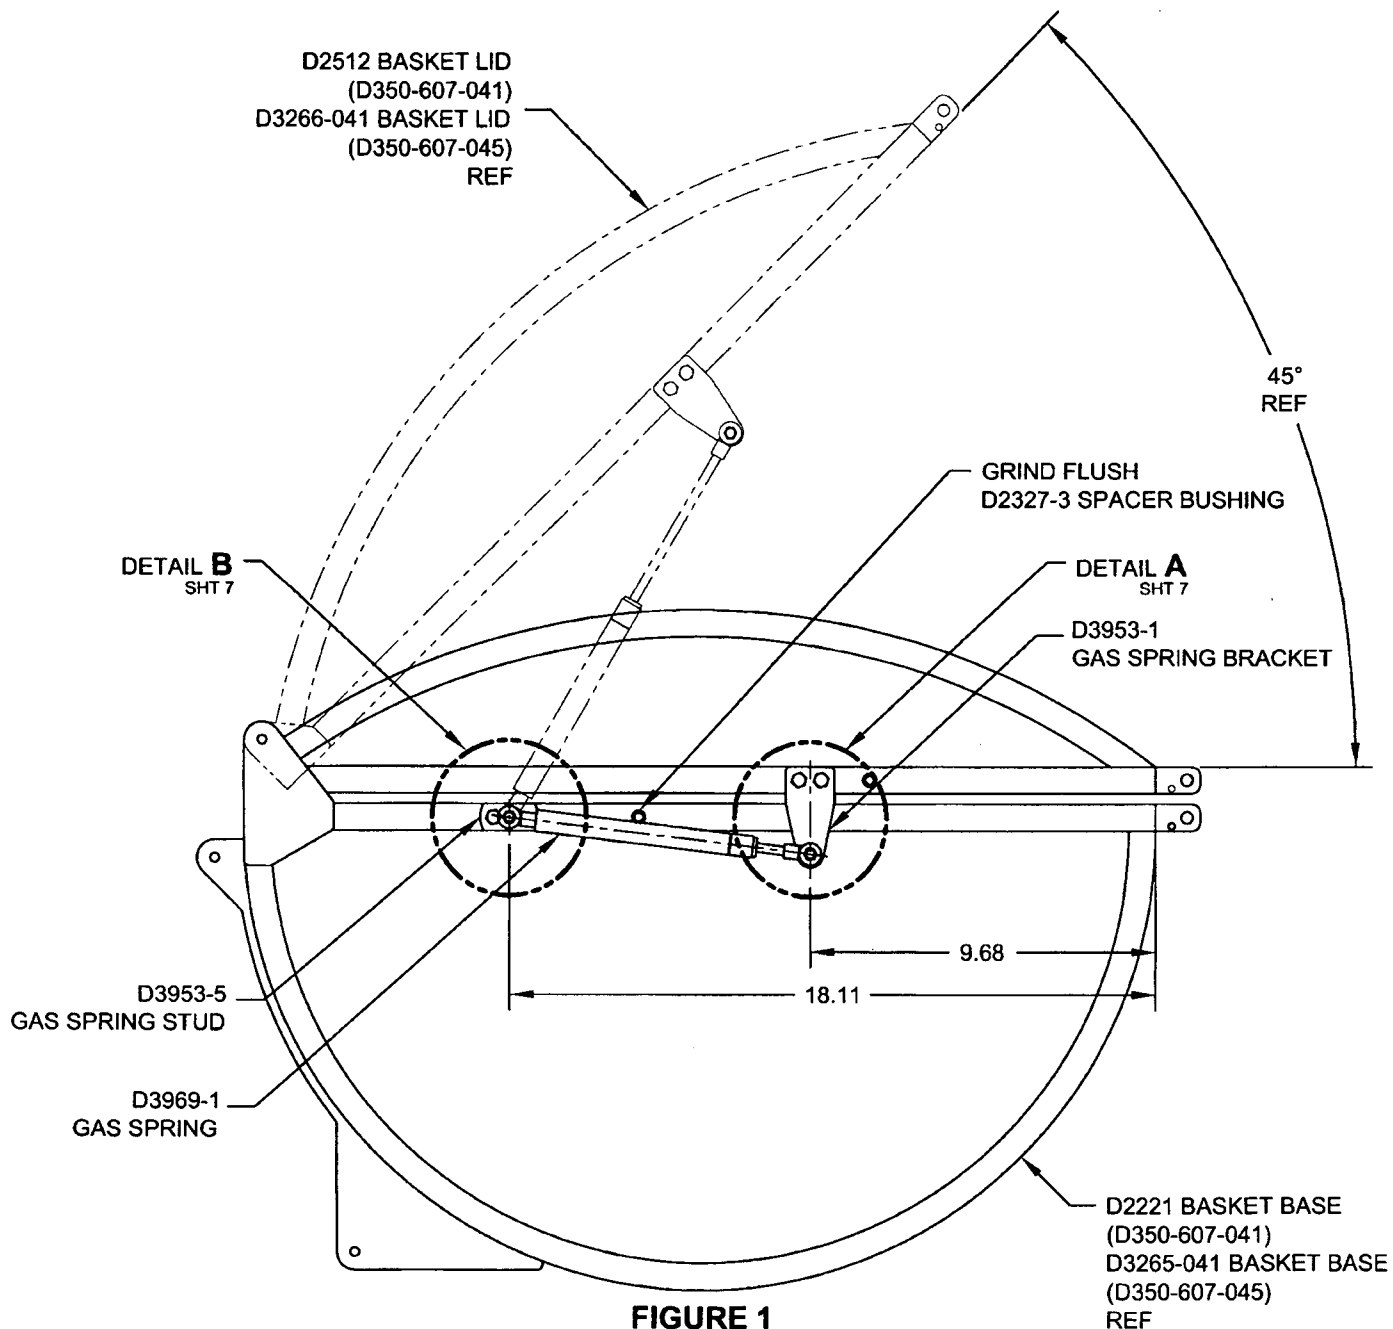

FIGURE 1
- 2) GRIND FLUSH THE D3953-13 SPACER BUSHING ON BOTH ENDS OF THE BASKET AS SHOWN IN FIGURE 1 (IT IS PERMISSIBLE TO GRIND ALL 4 SPACERS FLUSH). TOUCH UP PAINT PER ICA-D350-607 REV. 0 SECTION 5.1 ITEM 4.
- 3) LOCATE THE D3953-1 GAS SPRING BRACKET AS SHOWN IN FIGURE 1. TRIM STEEL MESH LOCALLY AS REQUIRED. TOUCH UP PAINT PER ICA-D350-607 REV. 0 SECTION 5.1 ITEM 4. TRANSFER MARK AND DRILL 2X Ø0.194 HOLES THRU THE BASKET LID SQUARE TUBE STRUCTURE AS SHOWN IN DETAIL A. INSTALL THE D3953-1 GAS SPRING BRACKET & D3953-13 GAS SPRING SPACER USING 2X AN3C16A BOLT, 2X NAS1149C0332R WASHER & 2X MS21043-3 NUT AS SHOWN IN VIEW E-E.
- 4) LOCATE THE D3953-5 GAS SPRING STUD AS SHOWN IN FIGURE 1. TRIM STEEL MESH LOCALLY AS REQUIRED. TOUCH UP PAINT PER ICA-D350-607 REV. 0 SECTION 5.1 ITEM 4. TRANSFER MARK AND DRILL 2X Ø0.194 HOLES THRU THE BASKET BASE SQUARE TUBE STRUCTURE AS SHOWN IN DETAIL B. FASTEN D3953-5 IAW VIEW F-F USING 2X AN3C11A BOLT, 2X NAS1149C0332R WASHER & 2X MS21043-3 NUT.
- 2) GRIND FLUSH THE D2327-3 SPACER BUSHING ON THE END OF THE BASKET WHERE THE LID OPENER IS BE INSTALLED AS SHOWN IN FIGURE 1 (IT IS PERMISSIBLE TO GRIND ALL 4 SPACERS FLUSH). TOUCH UP PAINT PER ICA-D350-607 REV. 0 SECTION 5.1 ITEM 4.